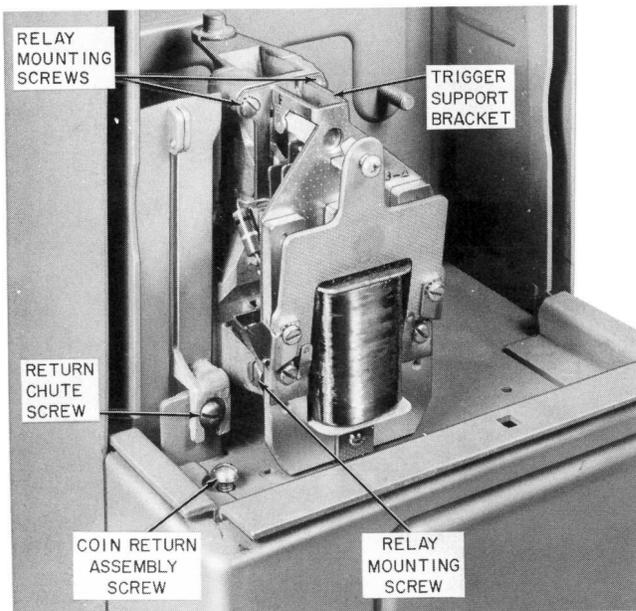
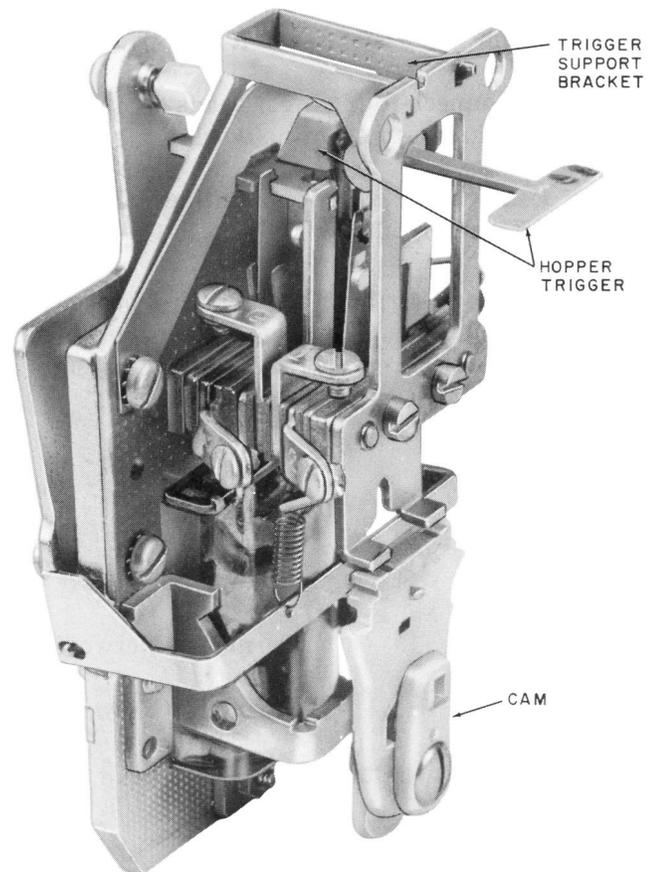

Fig. 4 — Coin Relay and Return Chute
Fig. 5 — Coin Relay
- (1) Disconnect black and yellow leads.
- (2) Remove two screws on top front of coin relay (Fig. 4).
- (3) Remove two hex head screws on sides of coin relay.
- (4) Check that hopper trigger (Fig. 5) is in horizontal (up) position and pull off coin relay. Take care not to damage hopper trigger.
Note: Do not attempt to install relay if trigger support bracket (Fig. 4) is so distorted that mounting holes do not engage bosses on hopper.
- (1) Remove coin chute-totalizer assembly (3.03).
- (2) Loosen screw on return chute assembly (Fig. 4).
- (3) Lift assembly up and off.
- (2) Remove return chute assembly (3.11).
- (3) Remove coin return assembly locking screw (Fig. 4).
- (4) Insert finger in coin return and tilt top forward.
- (5) Lift coin return. Pull coin return assembly out and up.